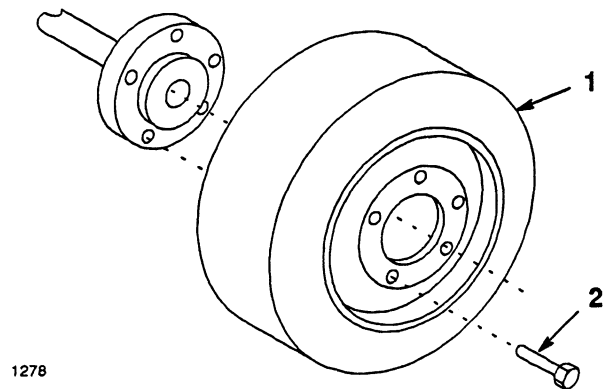

**Figure 1**
1. Slide wheel onto axle with valve stem in (Fig. 1).
2. Wheel end play should be 0-.015" (0-.4 mm). Use shim washers (as required) and large OD flat washer for spacing on the axle. Insert cotter pin through the axle and bend the ends of the pin open (Fig. 1).
3. Push the dust cover (Fig. 1) onto the end of the axle so it snaps over washer.